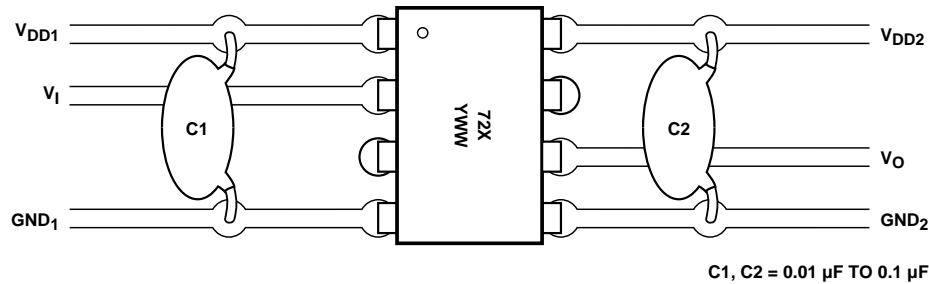

Figure 11. Recommended Printed Circuit Board Layout.
0.1  $\mu\text{F}$ . For each capacitor, the total lead length between both ends of the capacitor and the power-supply pins should not exceed 20 mm. Figure 11 illustrates the recommended printed circuit board layout for the HPCL-772X/072X.